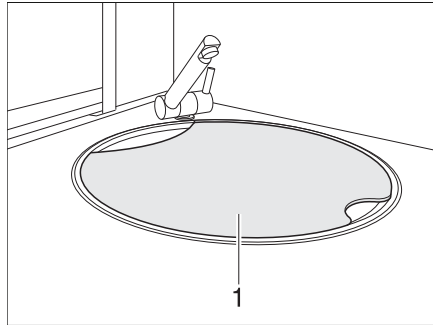

Fig. 10 Sink cover
- ▶ In case of an accident or emergency braking the sink cover (Fig. 10,1) can injure the vehicle passengers. Before the journey, take the sink cover off the sink and store it securely in the kitchen block or wardrobe.